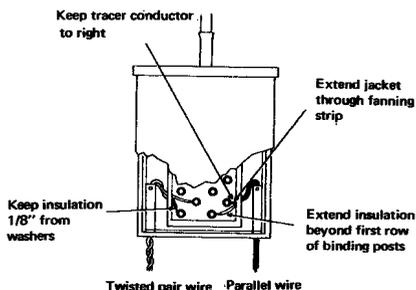

FIGURE 1. Terminating Twisted Pair and Parallel Wire
- 3.03 Terminate the plain conductor on the lefthand binding post or fuse, and the tracer conductor on the righthand binding post or fuse. If fuses or binding posts are on a vertical plane, terminate the plain conductor on the top fuse or binding post of the pair, and the tracer conductor on the bottom fuse or binding post of the pair. Figure 1 shows termination twisted pair wire and parallel wire.